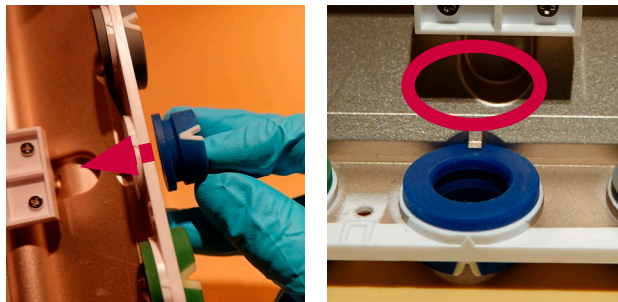

Figure 21 Insert a new colour ring
- b) **Push the new colour ring into place from the outside of the back casing (Figure 21)**